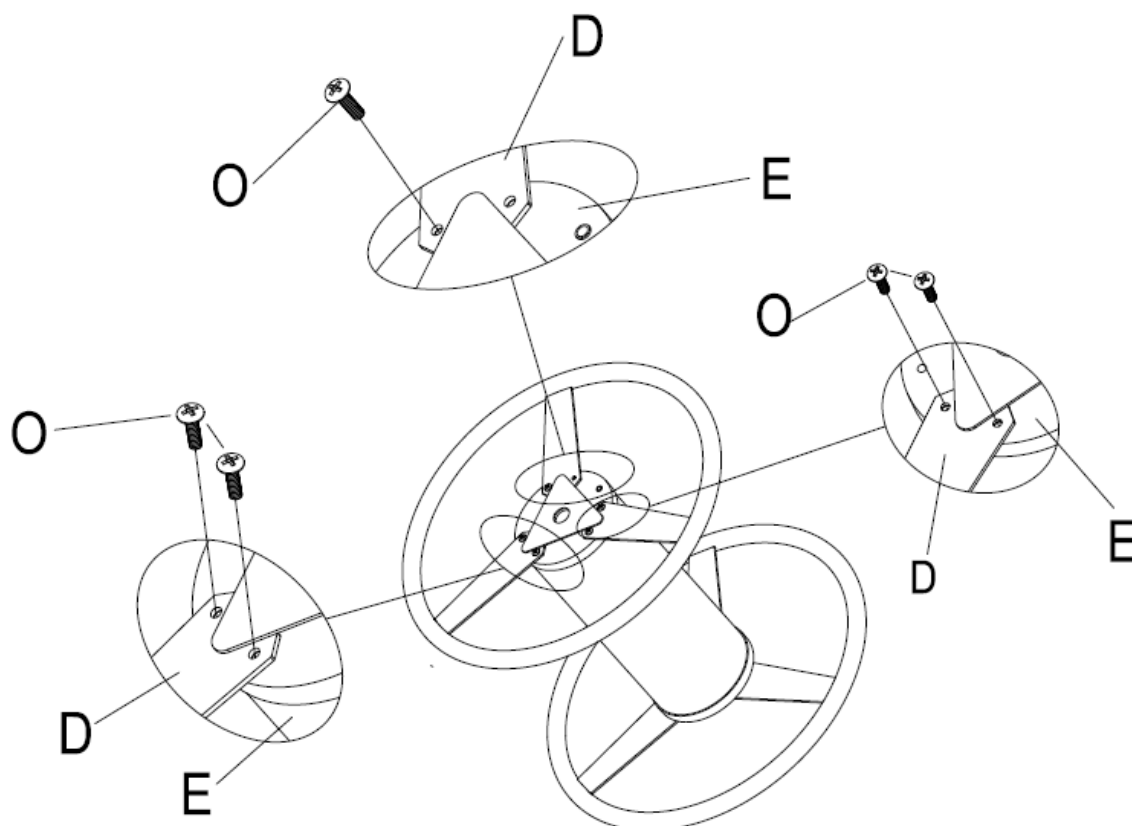

Figure 6
Step 6: Attach the second Drum Rim (D) to the Enclosed Drum (E) using five Bolts (O). See Figure 6.